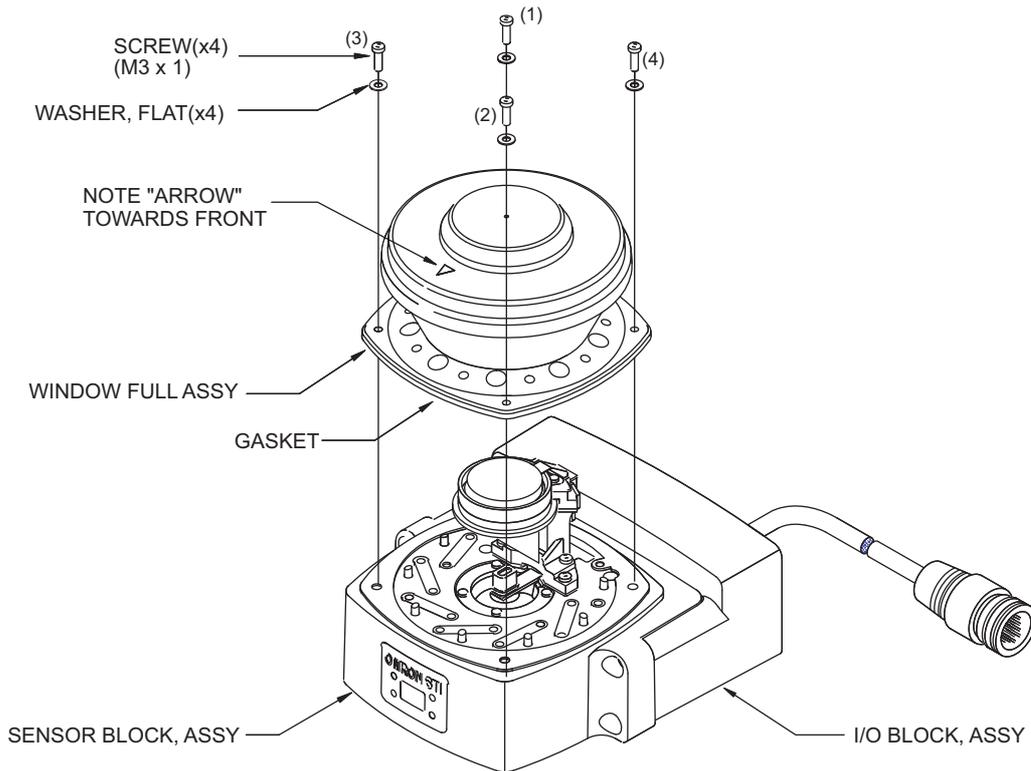

Fig. 7-16 Window Replacement
7. While applying even pressure to the top of the window, evenly tighten the four screws with flat washers in an alternating pattern (  Fig. 7-16). It is recommended that the screws be tightened to a torque of 0.56 N•m (5.0 lb-in).